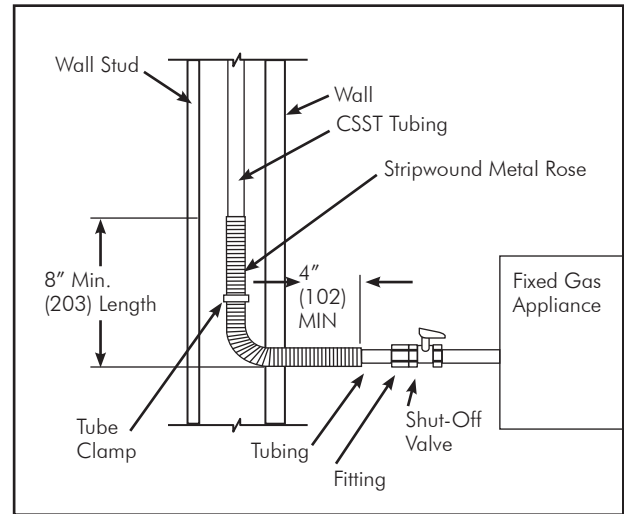

FIG. 4-22 Direct Tubing Connection to a Fixed Gas Appliance Shut off Valve
- **Fixed appliance connections** may be directly connected to the DIAMONDBACK™ tubing. When the fixed appliance is located in a secure, dedicated space, such as basement, attic, garage or utility closet, the flexible piping may be directly connected to the appliance shut-off valve without installation of a flange fitting or flexible appliance connector (See **FIG. 4-22**).